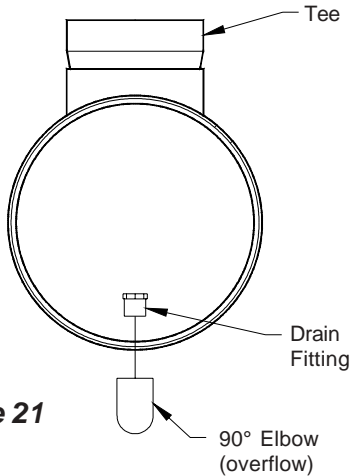

Figure 21
- 8) PVC glue the drain fitting and slide into hole in tee from inside-out. Prime and PVC cement drain fitting and 90° Elbow (overflow) and slide elbow over drain fitting, elbow should turn down. **See Figure 21.**